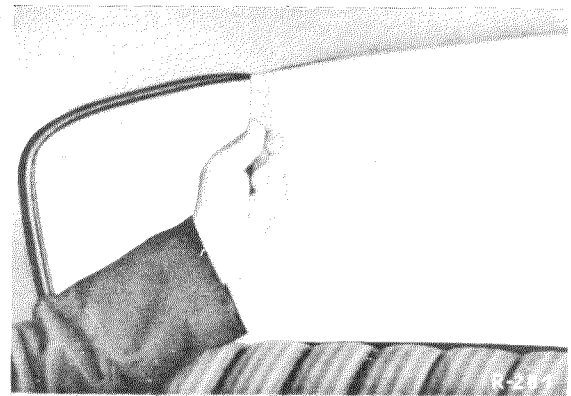

Fig. 67 — 2/1
2. Use a flat piece of wood to push the rubber lip of the rubber molding from the inside behind the sheet metal edge (Fig. 67 — 2/1) and in this way loosen the entire rubber molding (shown here at back window).